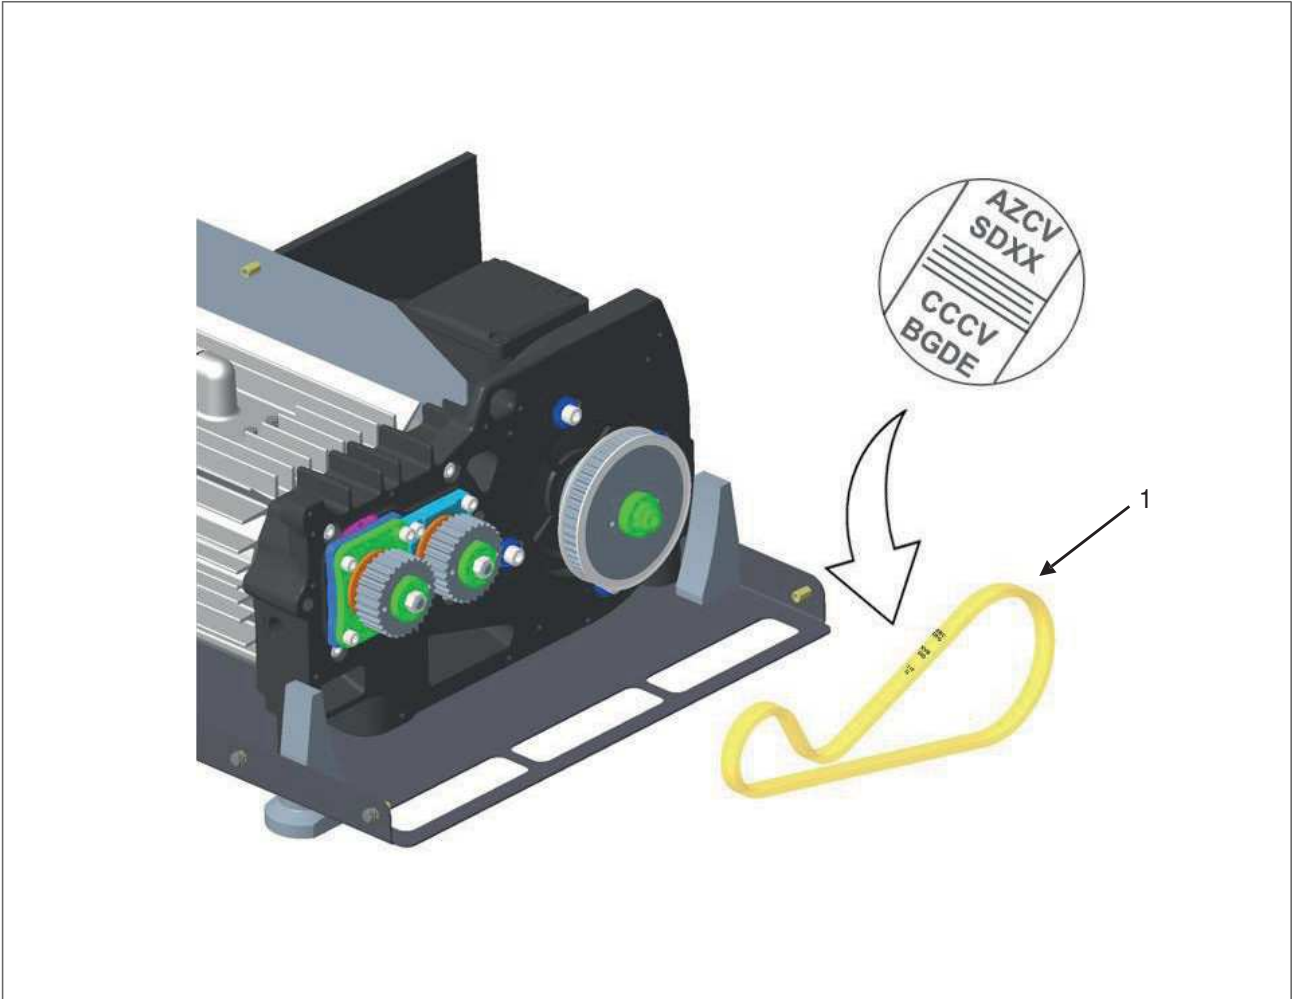

Figure 8 – Tooth belt assembly
1. Tighten the motor cap screw (Figure 8, Item 1 and 2) using 8 mm Allen key by hand. Torque each screw to 40Nm.